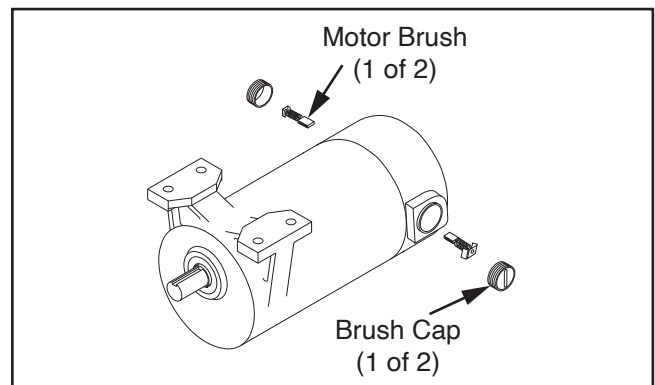

Figure 2. Motor brush and cap installation sequence.
4. Insert new motor brush, then install brush cap (see **Figure 2**).